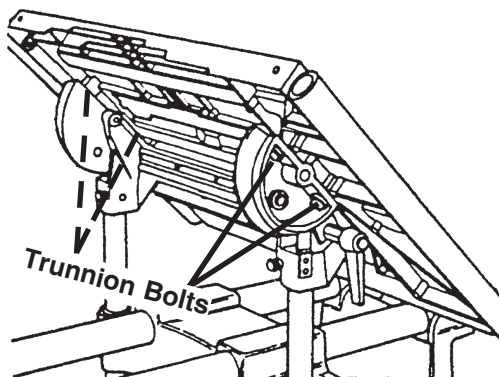

Figure 51
- b. Use a 5/16" Allen Wrench to loosen all four Bolts which hold the Worktable to the Trunnions, as pointed out in Figure 51. Loosen the Bolts only enough to allow movement with firm pressure.